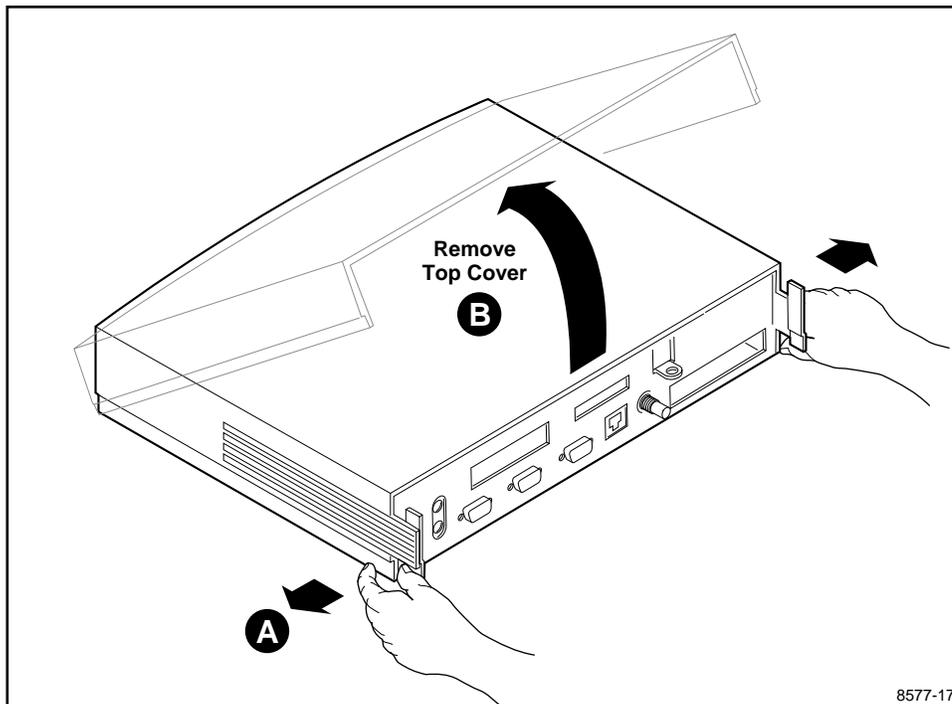

Figure 22. Removing the Pizza Box “C” Logic Module Cover
2. Remove the logic module cover. (No screw removal is required.) Pull out on the tab on each side of the cover as shown in part A of Figure 22, and lift the back part of the cover up in the direction of the large arrow (part B).